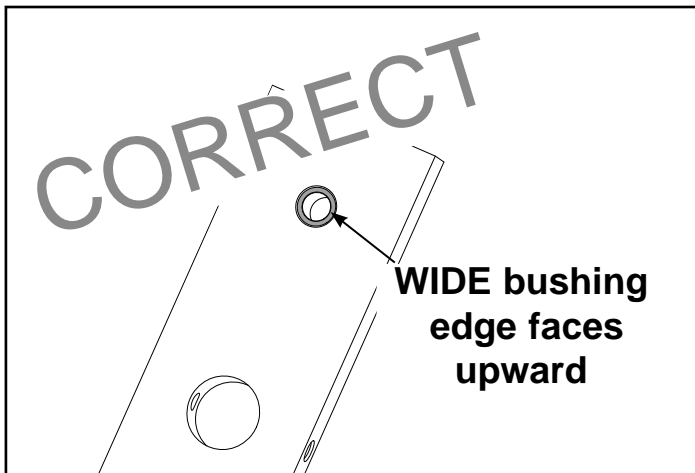

Figure 8A
- H. Carefully install each weight plate one at a time. **NOTE:** When installing weight plates, position plates so wide edges of bushing face upward and narrow edges of bushing face downward. See Figures 8A and 8B.